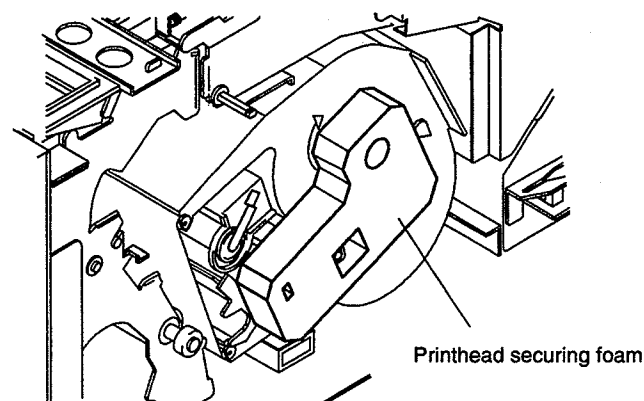

FIGURE 4-7. SECURING THE PRINTHEAD.
2. Install the printhead securing foam as shown in figure 4-7.